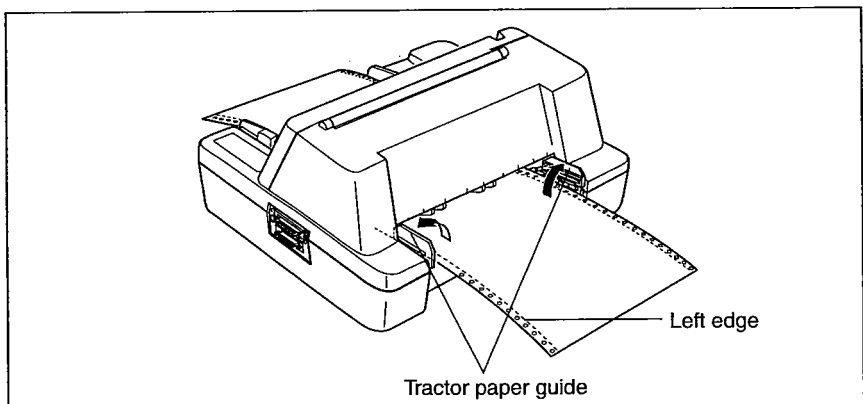

Figure 3-8 Setting tractor paper into the tractor
- 4 Open the tractor paper guide and place the paper on the sprocket pins as shown in Figure 3-8. If you are using pre-printed paper or labels, install them with the printed or labeled side facing upwards.